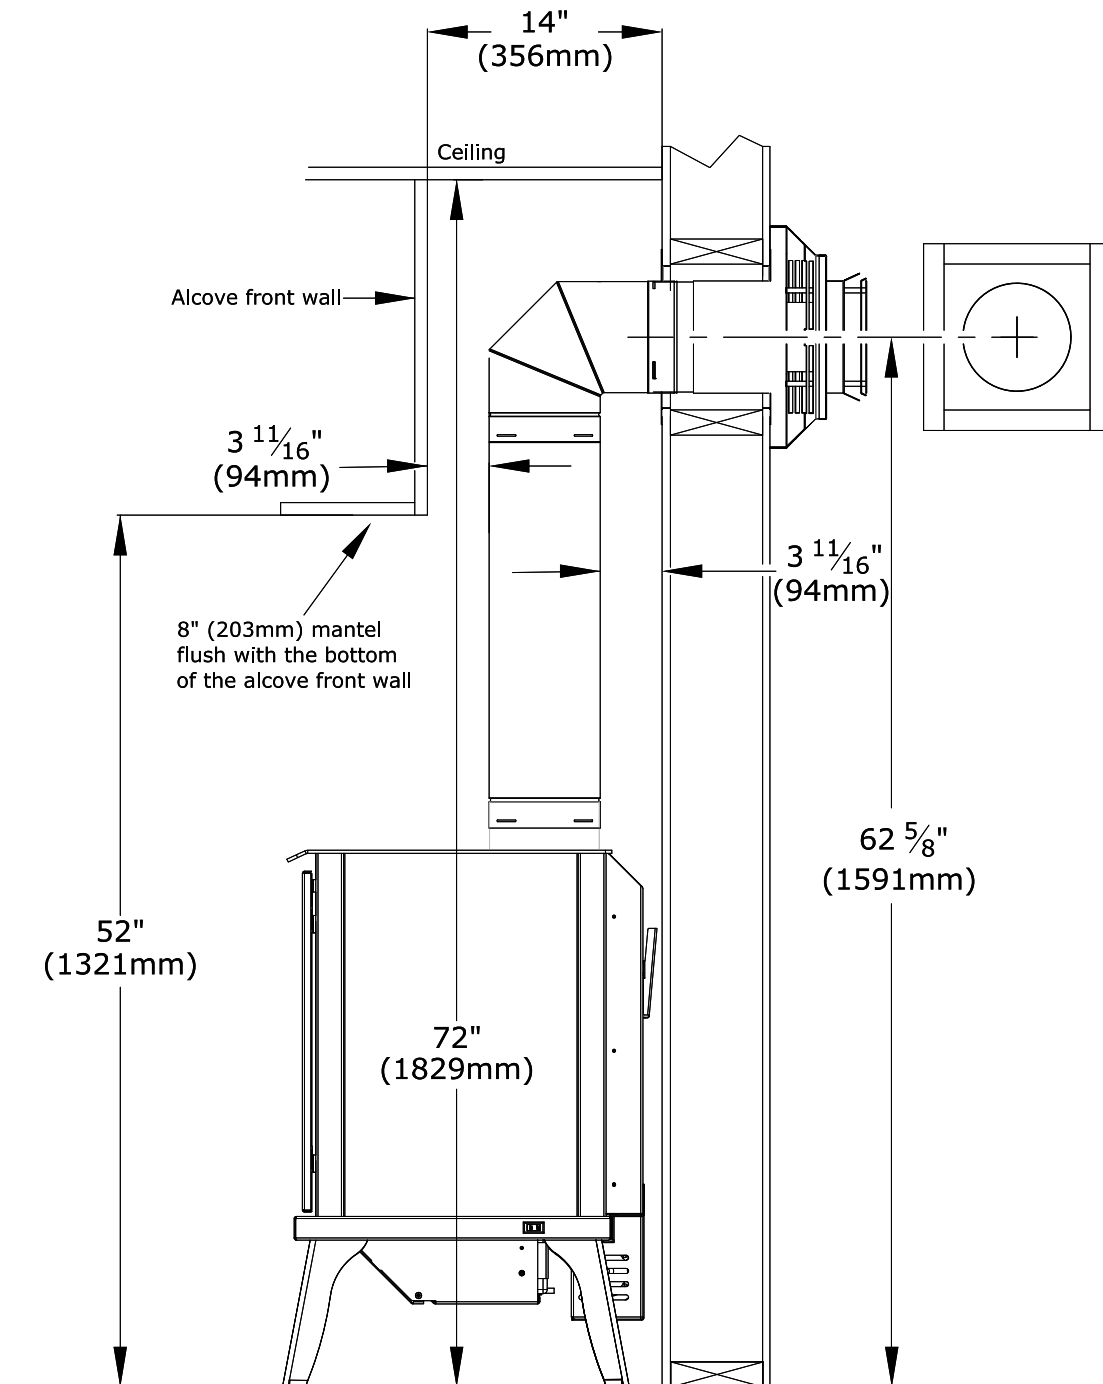

Figure 3.4 - Alcove Front Wall Framing
- The alcove installation may have a front wall, as shown in Figure 3.4, to visually hide the vent pipe and vent elbow, as long as required clearances are met. The 8" (203mm) mantel shown in Figure 3.4 is the maximum mantel projection allowed in any alcove installation.
- Figure 3.4 shows the minimum clearances to combustibles.